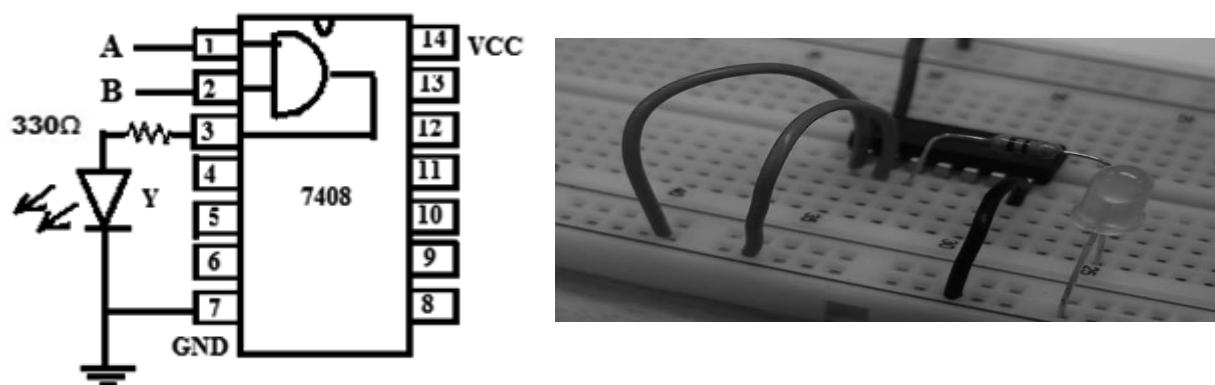

Figure 1.1: Sample Circuit
2. Make the connections as per figure 1.1 on breadboard and give supply voltage to relevant pin as per logic level.